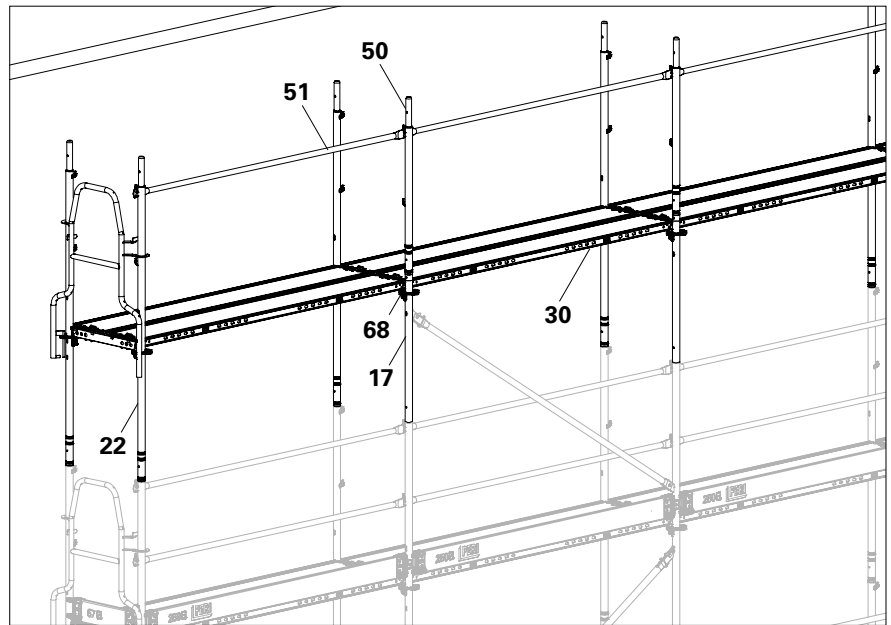

Fig. D2.04
1. Assemble the outer legs of the top level of the basic scaffold in the area of the roof overhang with Top Standard EVT 96 (17), spigot with Spacer Tube URE (68), Guardrail Post EVP 100 (50) and Guardrail in Advance EPG (51). Build up the edge frame with Easy Standard EVM (22).
2. Install Steel Decks EDS (30) in the basic scaffold.
- (Fig. D2.04)